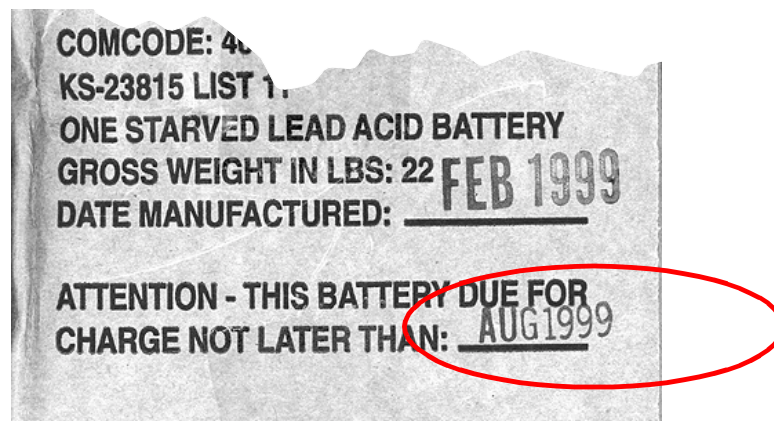

Figure 7-2 Example for a cardboard box with “charge no later than” date
Batteries may suffer irreversible capacity loss if stored in the open circuit state for a long period without recharging. The maximum time that a fully charged IR-30EC battery may remain on open circuit is 6 months at a temperature of 25°C, or 3 months at temperatures exceeding 32°C. The date by which the battery must be recharged is stamped on the cardboard shipping box (see Figure 7-2).
- Step 6 Verify that the battery has not reached the open circuit time limit (see Figure 7-2 on page 7-8).